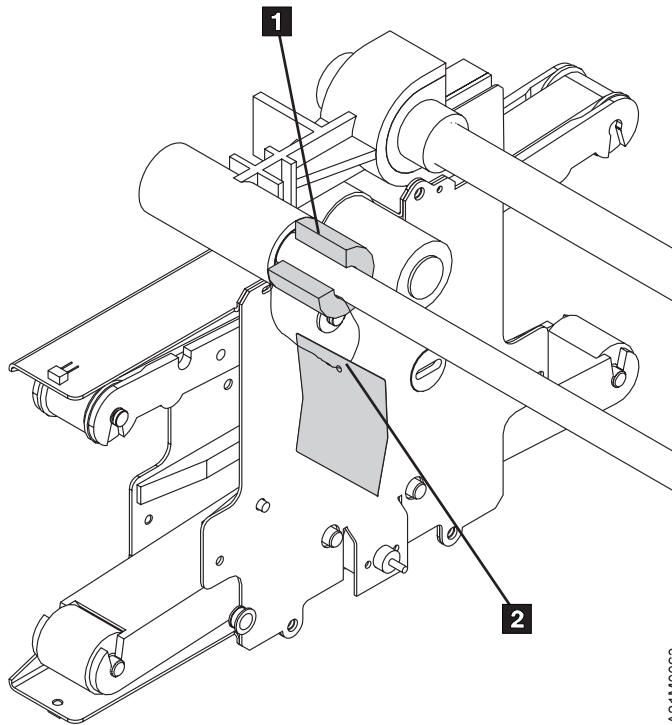

Figure 19. Orange Picker Stopper
5. Before turning on power, the orange stopper (see **1** in Figure 19) must be removed from the unit. The stopper is pressed on the rail to prevent the picker from moving during shipping. Do the following to remove the stopper:
- b. Look inside the unit and find the orange tag (see **2** in Figure 19) that is attached to the stopper. The orange tag will assist you in finding the orange stopper.